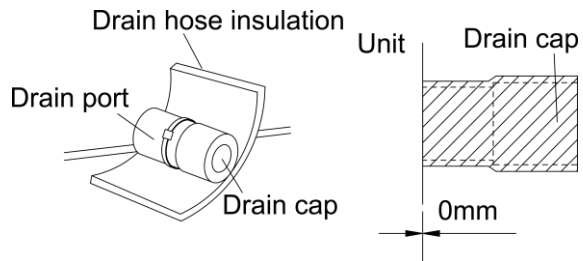

Figure 3-1-15
- (10) The unused drain port also should be insulated properly. (Figure 3-1-15)